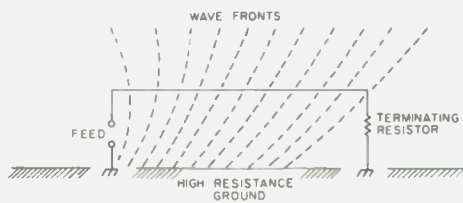

Fig. 2.
Amateurs using the Beverage on the low-frequency bands, such as 160, 80, and even on 40 meters, have found the antenna's low vertical wave angle very beneficial in bringing in low-angle DX signals and, at the same time, attenuating the "local" or high-angle interference. (See Fig. 2.)
2. Current limiting — see Fig. 2.
Fig. 2. Current limiting changes. Delete R51, R52, R53, R54, R55, R32, R33, R48, R49, and R50. (a) S6 is eliminated and replaced as shown. Values give current limiting at about 500 mA. (b) S5 is eliminated and replaced as shown, also 500 mA current limiting.